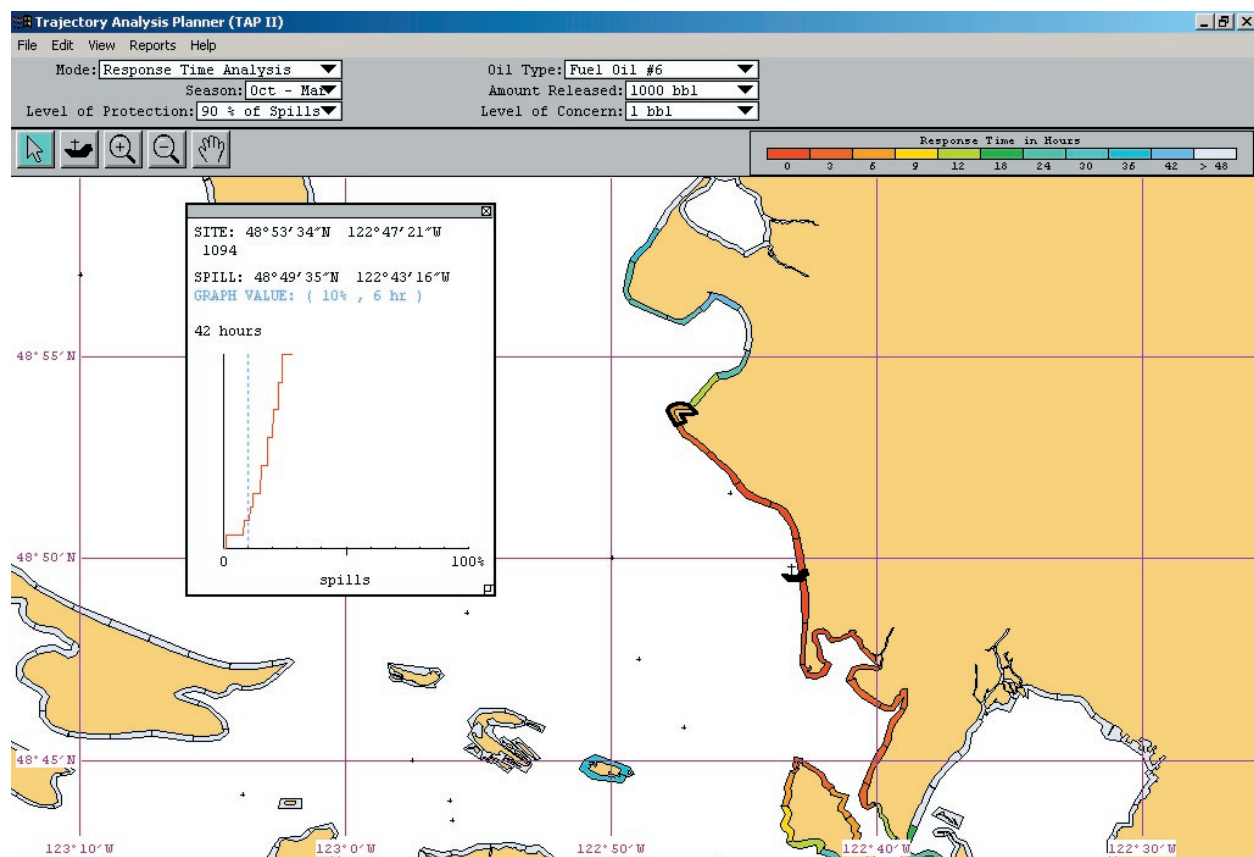

Figure 31. Response Time Analysis map for example spill at Ferndale.
- 5 From the toolbar, select the ship tool and place the spill at the Ferndale Refinery. The initial calculations might take a few seconds. The main window appears. See figure 31.
Look at the color bar above the main window in figure 31. At a level of protection of 90 percent of all modeled spills, it would take more than 48 hours for the oil to reach Sucia Island.